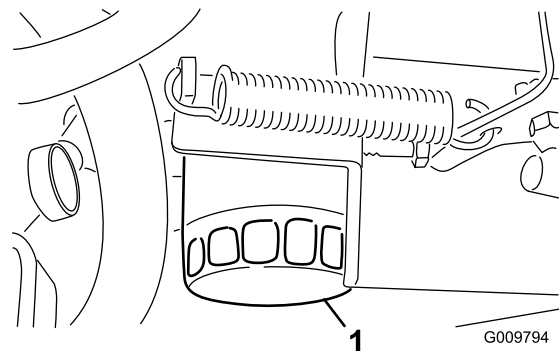

Figure 47
3. Remove the oil filter (Figure 47).